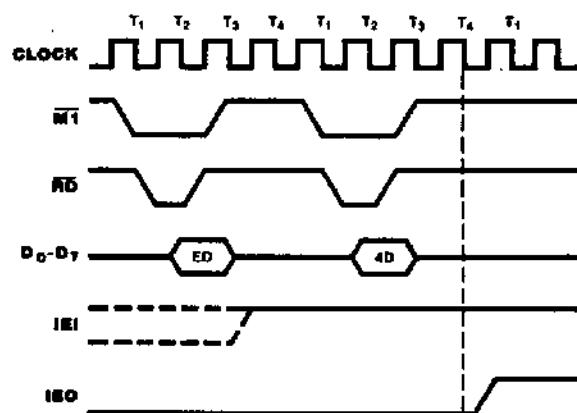

Figure 8. Return from interrupt Cycle
**Return From Interrupt Cycle.** (Figure 8) Normally, the Z80 CPU issues an RETI (Return From Interrupt) instruction at the end of an interrupt service routine. RETI is a 2-byte opcode (ED-4D) that resets the interrupt-under-service latch to terminate the interrupt that has just been processed.